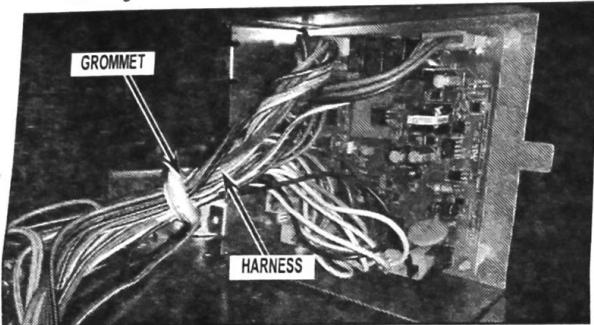

FIGURE 6
8. Remove the grommet from the side of the old HV assembly. See Figure 6.
9. Remove all connectors from the old HV board and discard old HV assembly. DO NOT REMOVE HARNESS that was connected to the old HV assembly, from unit. See Figure 6 and 7.